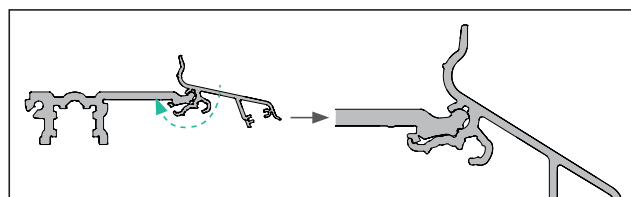

Fig. 1: Installation of weather rail 1368308 to adapter profile 1358224
- Snap weather rail onto the adapter profile. To do this, turn the two parts together until you hear them click into place (fig. 1). The weather rail is secured later on by being screwed to the sash.
- Snap weather rail onto the adapter profile. To do this, turn both parts together until you hear them click into place (see page 3, fig. 1). The weather rail is secured later on by being screwed to the sash.